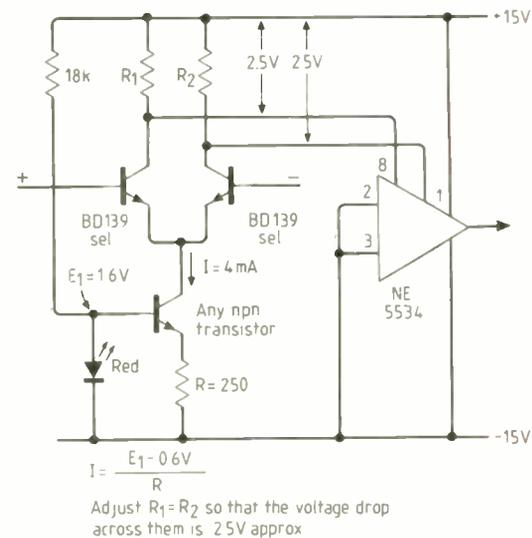

Fig.9. NE5534 op-amp with substituted differential transistor pair for optimum source resistance matching.
problems. These can be avoided nicely by substituting the input differential pair of the NE5534. This is done by taking the normally used inverting and non-inverting inputs to -15V and feeding the signal from the difference amplifier running at 2mA per transistor into the offset adjustment pins 1 and 8. These are internally connected to the collectors of the now disabled internal differential pair (Fig.9). It is also necessary to parallel the internal collector resistors with external resistors so that the collector is maintained at 2.5V .
-96dB . So, surprisingly, this stage must be designed for low noise by using, for example, the circuit of Fig.9 as the operational amplifier. What is even worse, the more inputs, the noisier the summing amplifier will be.